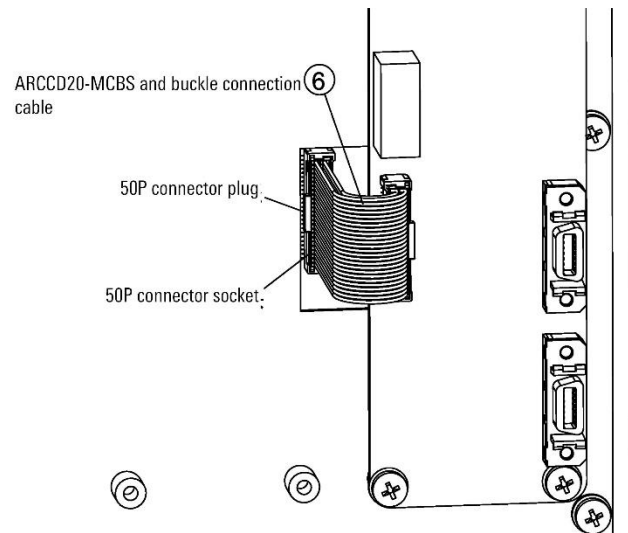

Figure 18-41 MCB and MCB-IEB connection
- Step4. Connect the ARCCD20-MCBS and 50P connector plugs at both ends of the gusset cable to the 50P connector receptacle on the MCB and MCB-IEB respectively, refer to Figure 18-41.